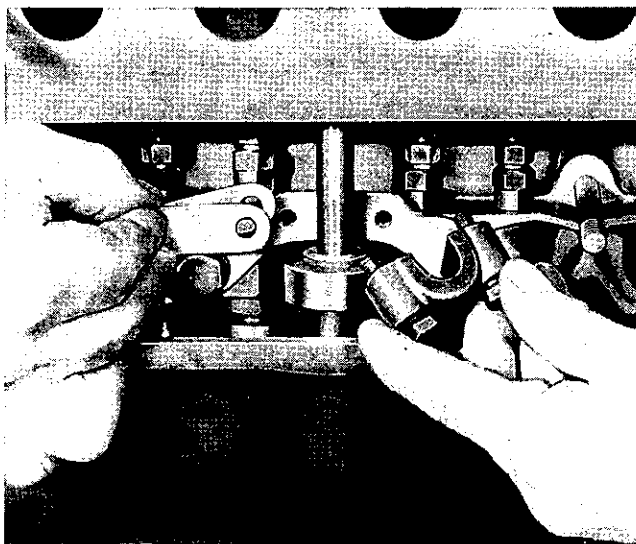

Fig. 27. Showing the fitting of inter abutment bracket and shims to distributor and oil pump drive.
3. Withdraw the two setscrews, which secure the outer abutment bracket to the inner one and remove the latter bracket, taking care not to drop the packing shims, shown in Fig. 27 into the sump ($\frac{7}{16}$ " A/F Spanner).
26. Remove Distributor Shaft abutment outer bracket with packing shims, after withdrawal of two securing bolts. Note packing shims for reassembly and position of machined portion of bracket towards skew gear with .003 gap. *Shims should be just sufficient to provide a clearance between shaft and bracket.* ($\frac{7}{16}$ " A/F Spanner). (See Fig. 27.)